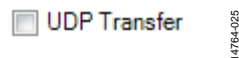

Figure 26. UDP Off/Plot On Mode
- The UDP off/plot on mode, where the UDP Transfer checkbox is not selected (see Figure 26). In this mode, the data displays in the graph but is not sent through the UDP.